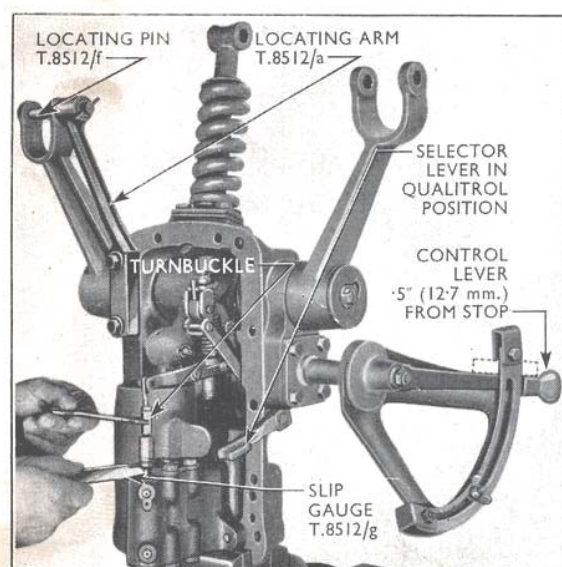

Fig. 13
1. Remove the lift assembly from the tractor (see section headed "To Dismantle the Hydraulic Lift Assembly") and place it in a soft jawed vice with the main control spring pointing upwards. (See Fig. 13.)
3. Assemble locating arm T.8512/a to the underside of the lift cover flange, attaching it to the two rear holes on the right-hand side. Insert the locating pin T.8512/f through the arm and right-hand lift arm bush. (See Fig. 13.)
5. Raise the main control lever to within .5 in. (12.7 mm.) of the stop formed by the upper hexagon nut on the quadrant. Slip gauge T.8512/g has a sideways dimension of exactly .5 in. (12.7 mm.) and this may be inserted between the quadrant stop and the lever so that the lever may be accurately positioned for adjustment (the gauge is shown dotted in Fig. 13).